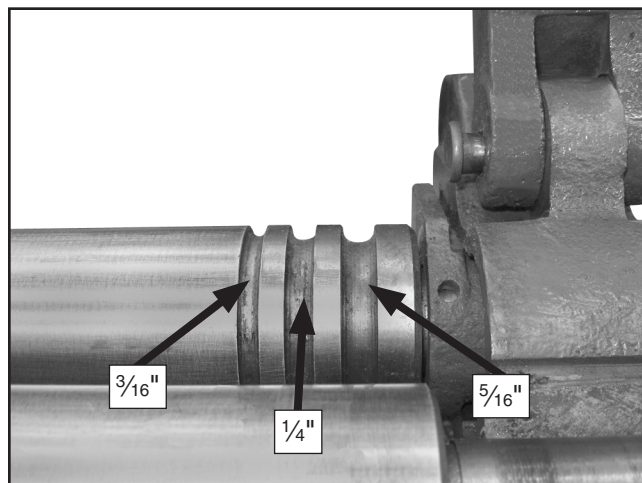

Figure 27. Wire grooves.
1. Place your workpiece into the smallest possible groove on the wheel. The three sizes are $\frac{3}{16}$ ", $\frac{1}{4}$ ", and $\frac{5}{16}$ " (**Figure 27**).